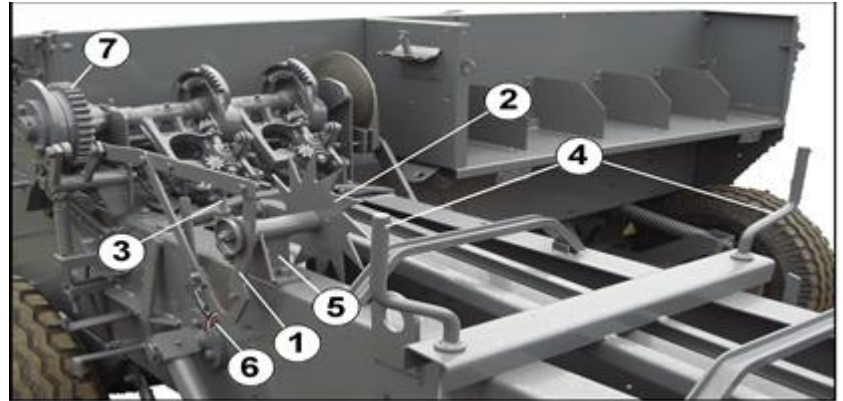

Fig. 4
3. Carry out coupling of the binding device bringing the sector lever (n° 1 fig. 4) to its maximum height by rotating bale spacing star type wheel 2 fig. 4.
Then rotate manually bell gear n° 7 fig. 4 counter-clockwise until it is locked in the position of binding shaft dragging.
4. Keep on rotating bell gear 7 fig.4 counter-clockwise, moving it repeatedly by a series of “clicks”, until the needles arm is lowered into such a position as to have the needle tips at the level of the lower edge of the compression chamber (fig. 13bis).